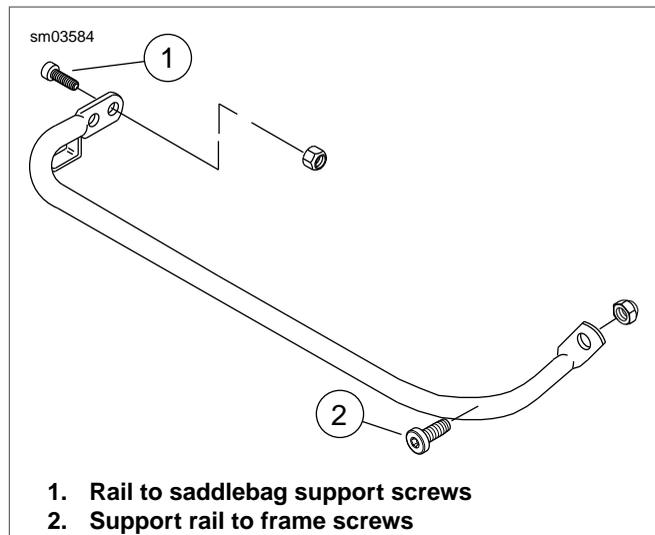

Figure 2-114. Saddlebag Support Rail (FLHX, FLTR)
2. Disassemble saddlebag guard, support and/or rails as necessary. See Figure 2-112, Figure 2-113 or Figure 2-114.
1. Assemble saddlebag guard, support and/or rails as necessary. Replace any damaged parts. See Figure 2-112, Figure 2-113 or Figure 2-114. Refer to the table associated with each figure for the correct fastener torque specifications.